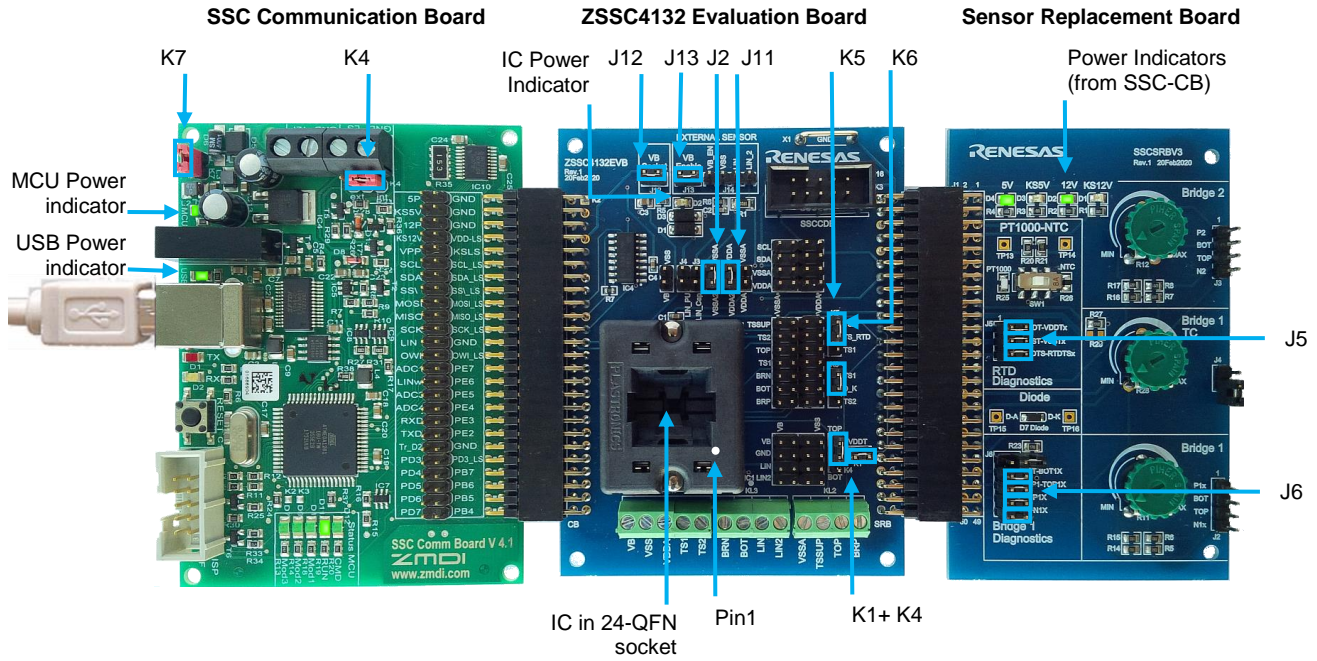

Figure 3. Default Evaluation Kit Connections
The Evaluation Kit hardware consists of the following three boards as shown in Figure 3 and includes samples of the ZSSC4132 (24-QFN):
- ZSSC4132 Evaluation Board – This board contains a 24-QFN socket for the ZSSC4132 single IC, access points for connection to instrumentation, and an external sensor circuitry/module. See Figure 3 for the location of pin 1 for proper IC orientation. Install jumpers initially as shown in Figure 3. This board also offers a connector to a Sensor Replacement Board.
Note: There is a “dummy” IC in the socket on the SSC Board ZSSC4132 that has to be replaced with an actual ZSSC4132 device under test (DUT). See Figure 3 for the location of pin 1 for proper IC orientation.
Follow these procedures to set up the kit as shown in Figure 3:
1. Connect the SSC Communication Board, the ZSSC4132 Evaluation Board, and the SSC Sensor Replacement Board via board-to-board connectors as shown in Figure 3
2. Insert IC into the 24-QFN socket; see Figure 3 for the location of pin 1 for proper IC orientation.
Follow these procedures to connect the lab equipment and the user’s computer to the kit as shown in Figure 3:
1. Depending on the use case, connect the boards, external sense element and/or sensors as shown in section 1.3. For a first IC evaluation, use default setup as shown in Figure 3.
In the default setup, the evaluation kit is powered by the USB port of the PC (see Figure 3).